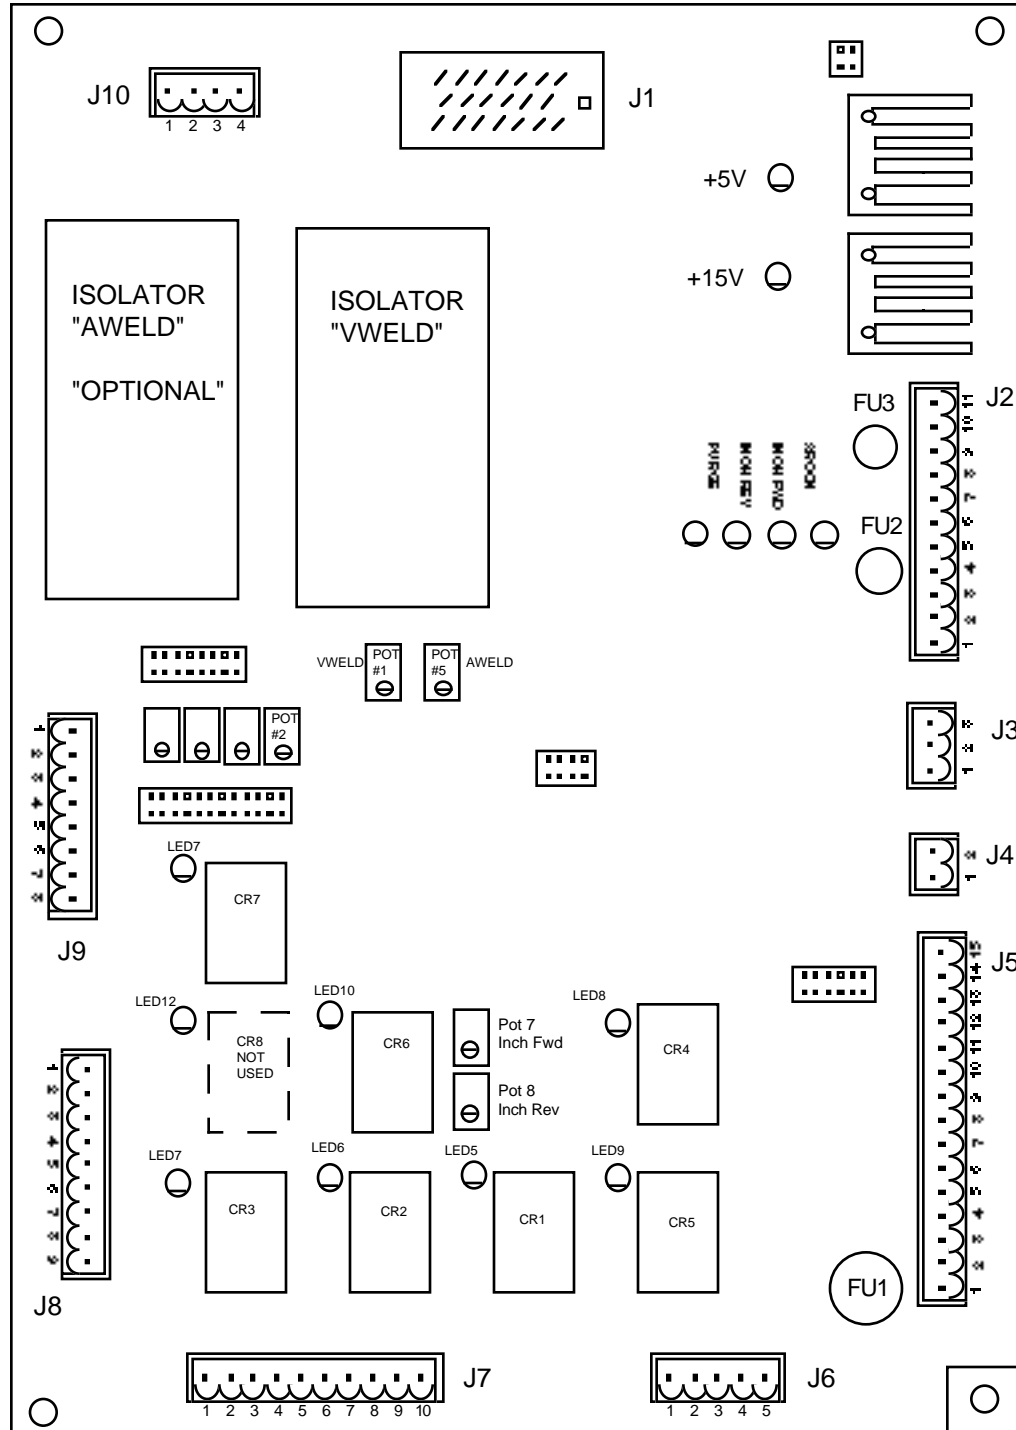

Figure 8-6 UWI Interface Board
- b. Adjust pot #5 (AWELD) on the UWI circuit board until the meter shows 10.00 ± 0.02 volts. Refer to Figure 8-6. Make sure that the feed motor output shaft rotates.